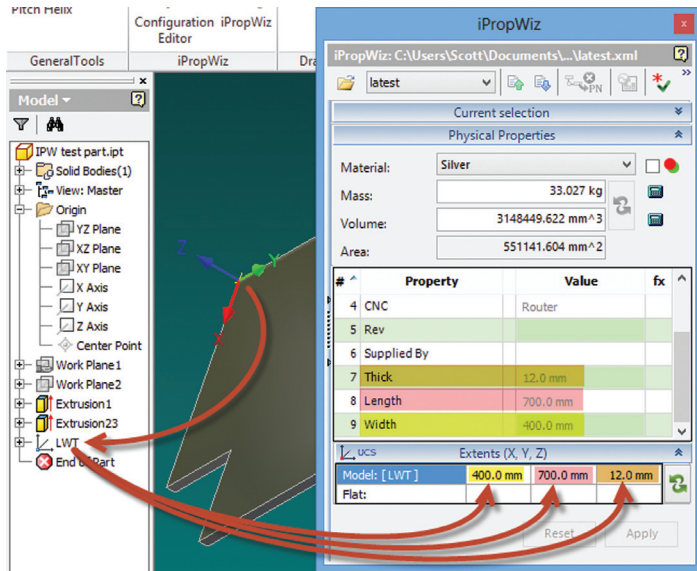

Figure 9: Extents aligned to user-defined UCS
- Align to user-defined UCS (see Figure 9).